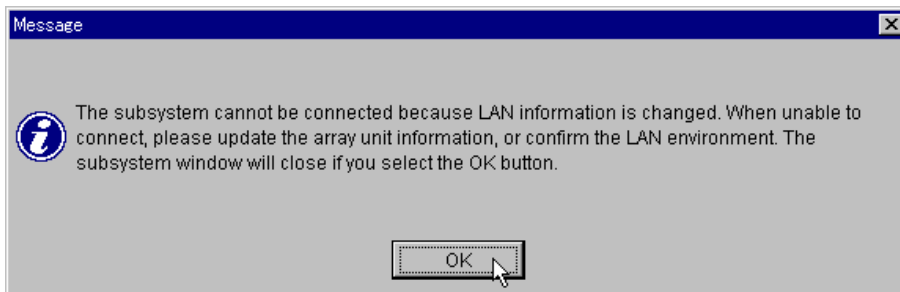

Figure 5.24 Confirm LAN Environment Warning Message
8. If the subsystem cannot be connected, the **Confirm LAN Environment** warning message displays (see Figure 5.24). If this displays, change the connection IP address.